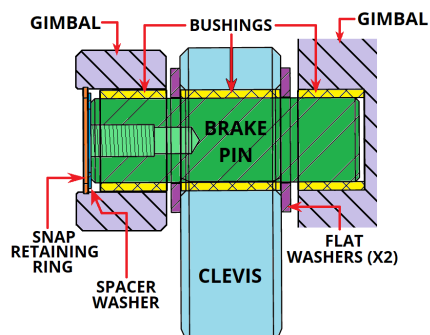

Figure 6: Seakeeper 1 rod-end details
7. **REMOVE** internal snap retaining ring and spacer washer of rod-end pin. [Only Seakeeper 1 has a spacer washer, as shown in Figure 6]